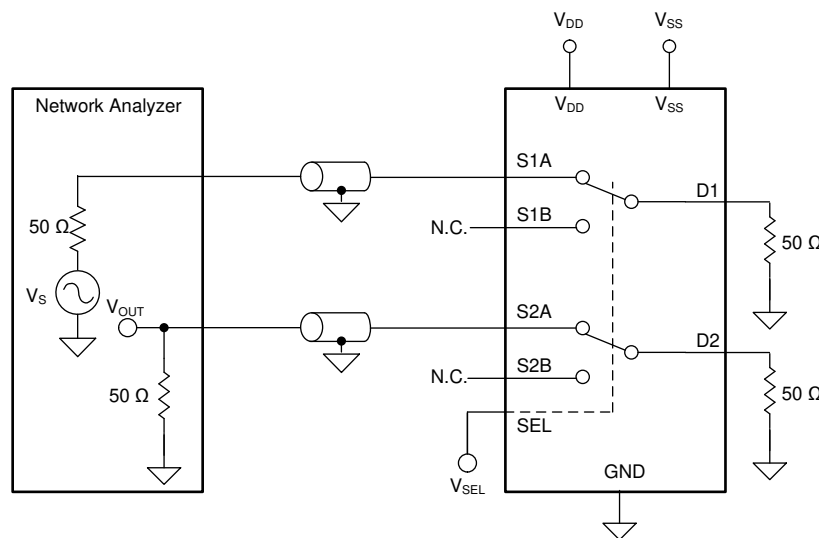

Figure 7-9. Inter-Channel Crosstalk Measurement Setup
2. Inter-channel crosstalk: the voltage at the source pin (Sx) of an on-switch input, when a 1-VRMS signal is applied at the source pin of an on-switch input in a different channel, as shown in Figure 7-9.